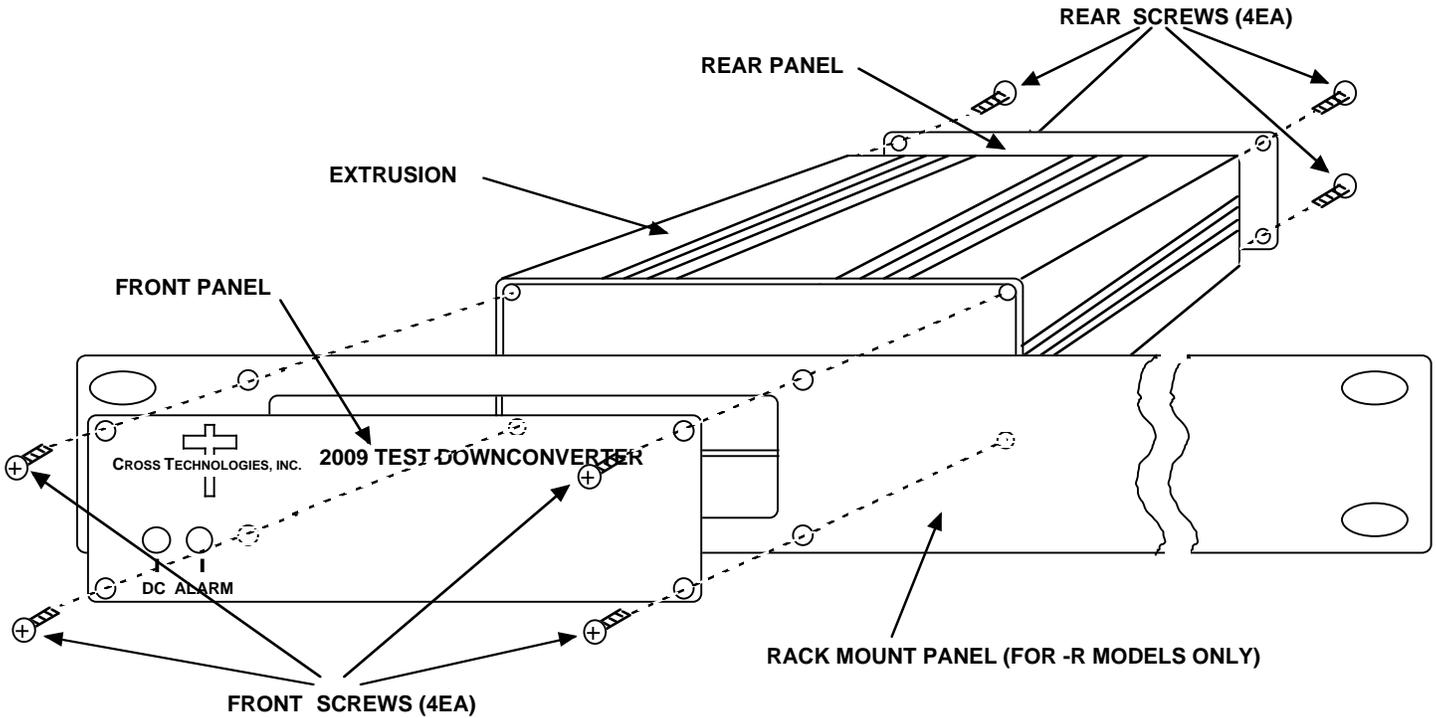

FIGURE 2.1 Model 2009-59 Assembly (-R option shown)
The 2009-59 is packaged in an aluminum extrusion. The **-R option** is mounted on a 1 3/4" X 19" panel that can be mounted to a rack using the 4 holes at the ends (See Figure 2.1).
2. Remove four (4) **rear panel screws** (see Figure 2.1).
5. Install four (4) **rear panel screws**.